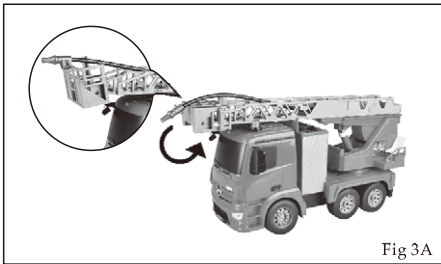

Fig 3A
- 1、Open the colorful box, unpack the blister packing in the upper left corner of the remote control car, take the car out, rotate the fountain, and install the sprinkler head. (Fig 3A)